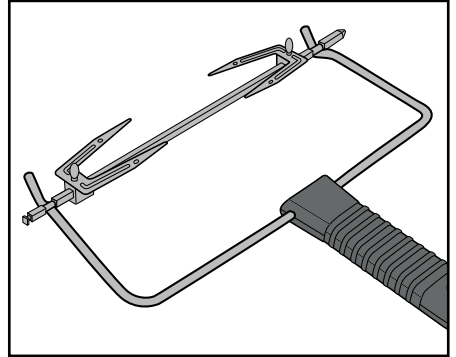

Fig. 3: Hooking the tongs (12) onto the rotisserie (16)
- ▶ Always slide the baking tray (11) into the lower rail when you use the rotisserie (16). This will collect any drips.
- To remove the hot rotisserie (16), grip with the hooks at the end of the tongs (12) into the recesses on the rotisserie (16) (Figure 3):